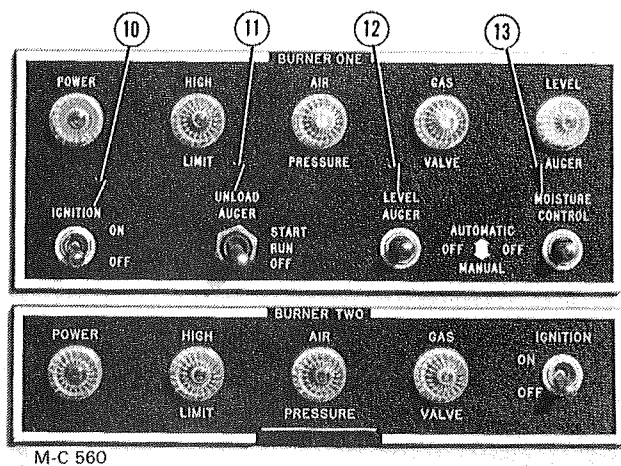

Figure 4
1. Flip all of the toggle switches on the control panel(s) to the **OFF** position, see Figure 4.
The level auger toggle switch, Figure 4 page 6, is a three position switch, AUTOMATIC-OFF-MANUAL. When the switch is in the MANUAL position the level auger will start immediately and stop when the hopper is full.